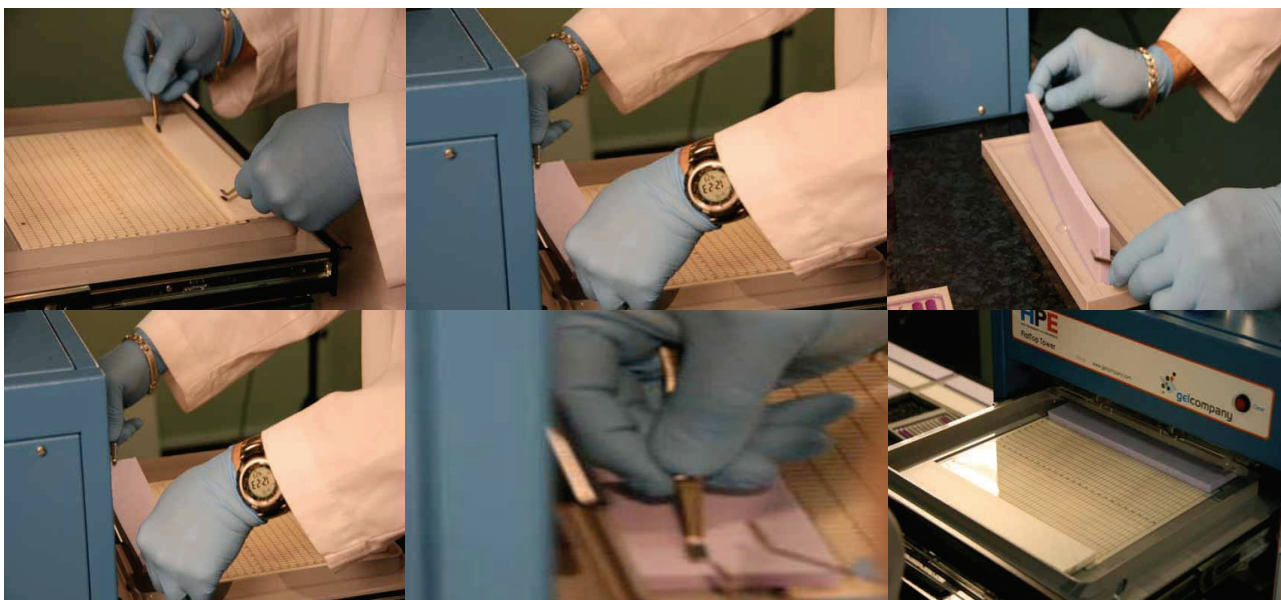

Fig. 7: Applying the stack of electrode wicks on gel edges.
10. Place the stack of electrode wicks onto the gel edges, overlapping the gel by at least 2 mm. Smooth out air bubbles using a roller. Move the anodal wicks around the gel area to avoid dropping buffer on the gel surface (fig. 7)